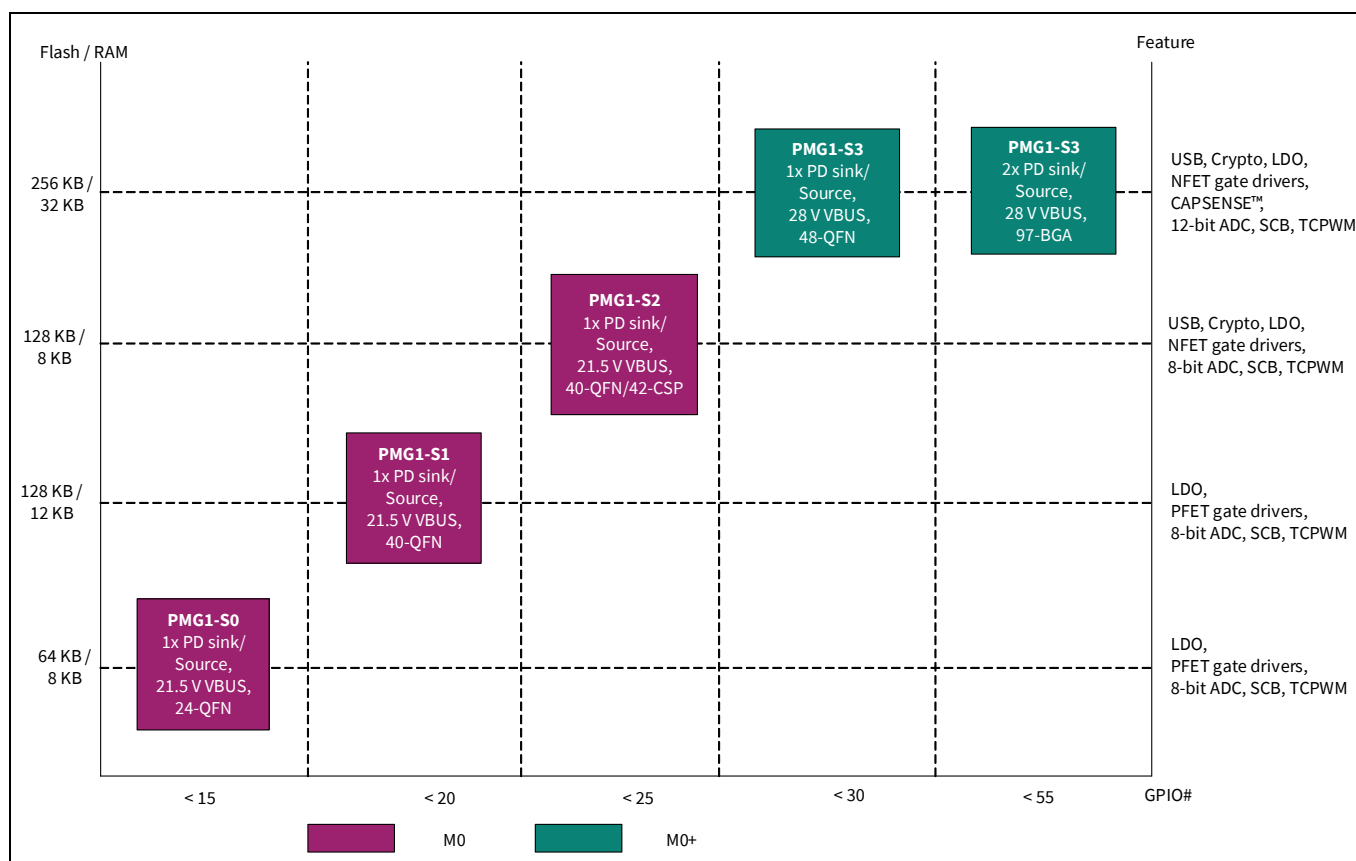

Figure 1 PMG1 family segmentation
EZ-PD™ PMG1 (Power Delivery MCU Gen1) is a family of high-voltage USB-C Power Delivery (PD) microcontrollers (MCU). These chips include an Arm® Cortex®-M0/M0+ CPU and USB-C PD controller along with analog and digital peripherals. EZ-PD™ PMG1 is targeted for any embedded system that provides/consumes power to/from a high-voltage USB-C PD port and leverages the microcontroller to provide additional control capability. **Figure 1** shows the EZ-PD™ PMG1 family segmentation.